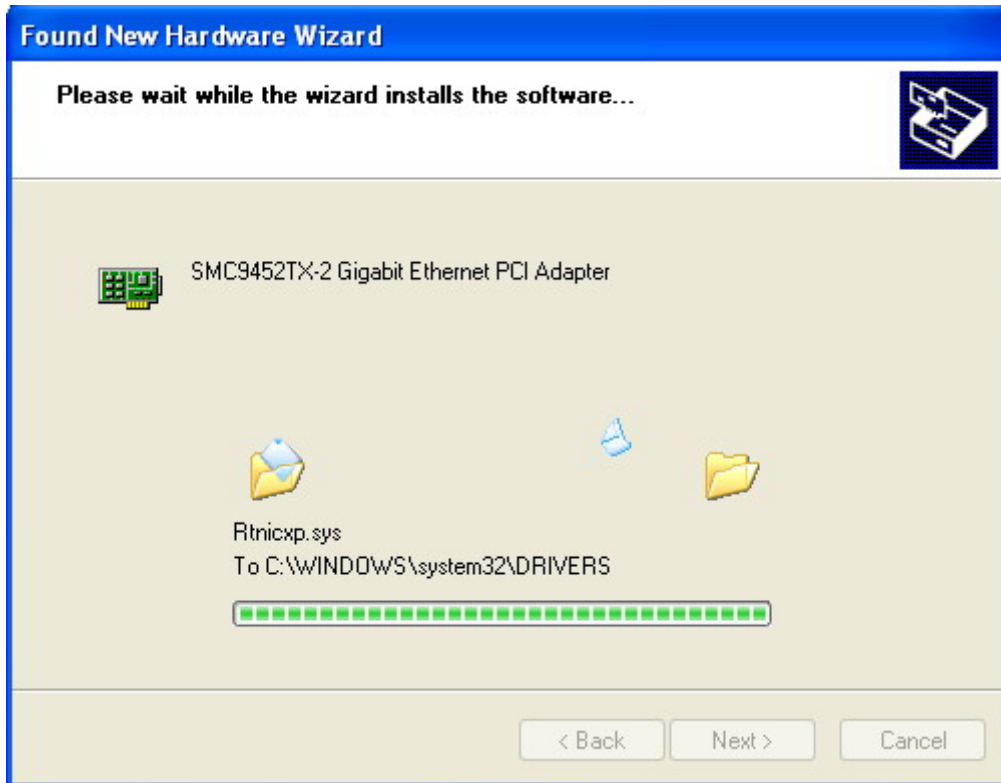

Figure 2-10
Step 9: Select the model of the Adapter as shown in Figure 2-10, then click **Next**.